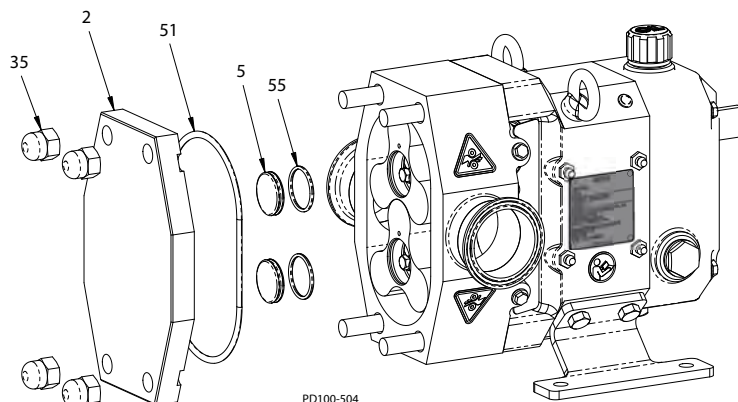

Figure 66 - Cover Installation
1. Install the screw cap o-ring (Figure 66, item 55) into the groove in the screw cap (item 5) and install it in the rotor bore. The o-ring snaps into the groove in the rotor bore.
2. Install the cover o-ring (item 51) into the groove in the cover.
4. Install the cover (item 2) over the studs and fasten it securely with acorn nuts (item 35). The pump should rotate freely by hand with no binding or dragging.